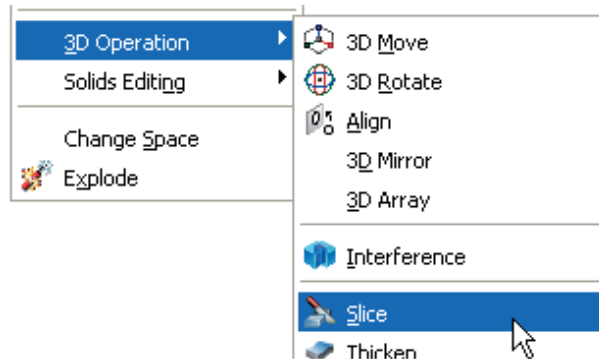
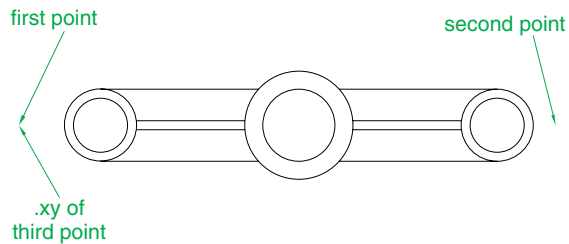

Fig. 15.23 The **Slice** tool icon from the **Modify** toolbar
Fig. 15.24 First example – **Slice** – the pick points
3. Call the **Slice** tool from the **Modify/3D Operation** sub-menu (Fig. 15.23). The command line shows (Fig. 15.24 shows the *picked* points):